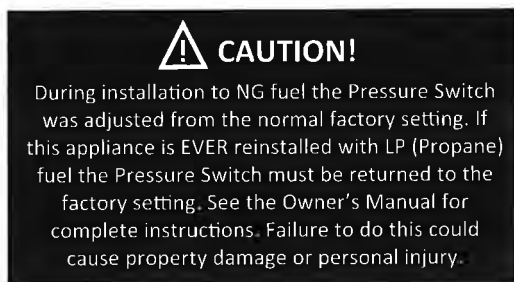

Fig. 35 – Caution Sticker
7. When the Pressure Switch set point is adjusted the appliance may not work properly if the unit is ever reinstalled on LP (Propane fuel). The "CAUTION" sticker (Fig. 35) is supplied in the hardware kit. You must install the "CAUTION" sticker on the appliance (Fig. 36).